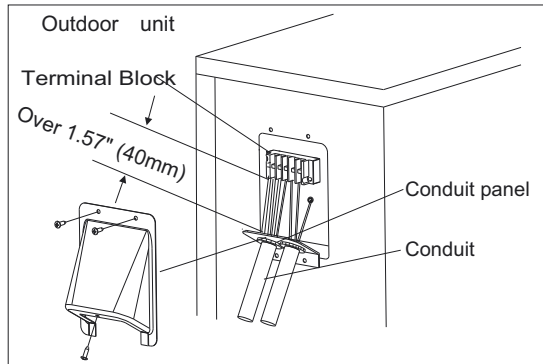

Fig. 16 – Field Wiring
5. Connect the conduit to the conduit panel (see Fig. 16).